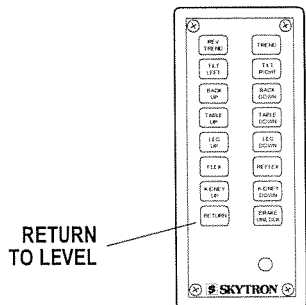

Figure 3-12. Return To Level
j. Return To Level. To return the table top to a level position, press the RETURN button (figure 3-12).